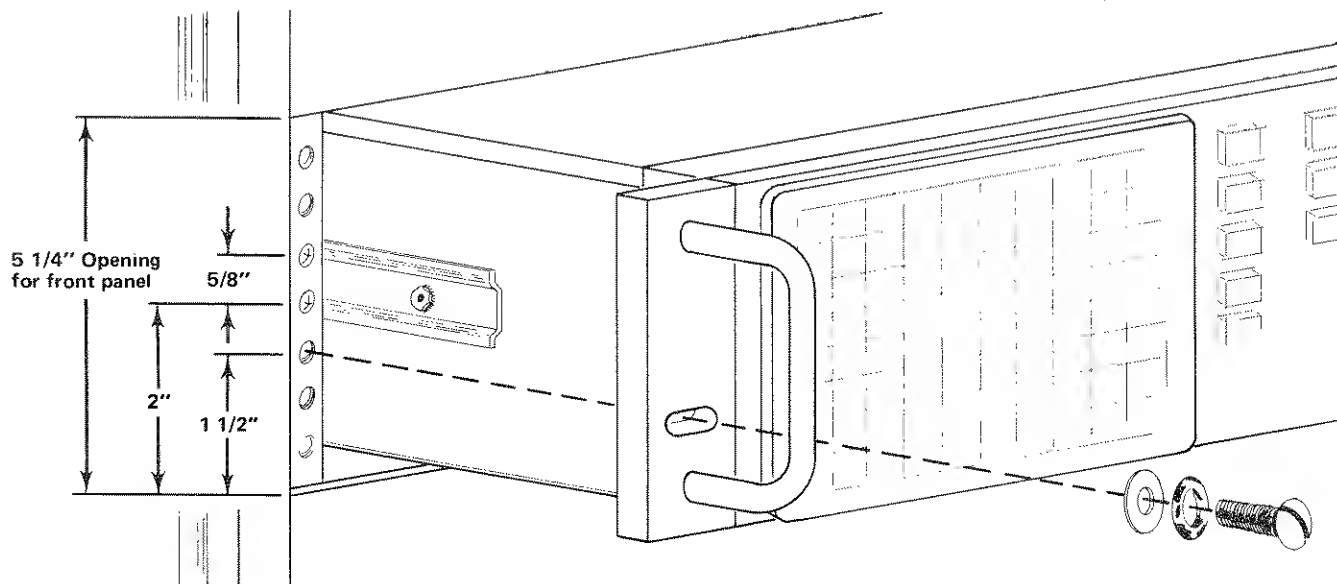

Fig. 3-2. Locating the mounting holes for the left stationary section. Same dimensions apply to right stationary section.
1. Select the proper front-rail mounting holes for the stationary sections using the measurements shown in Fig. 3-2.
7. Push the instrument all the way into the rack and secure it to the front-rail of the rack with the securing screws and washers shown in Fig. 3-2. If the securing hole is not tapped, use a "speed-nut" or similar item to install the securing screw.